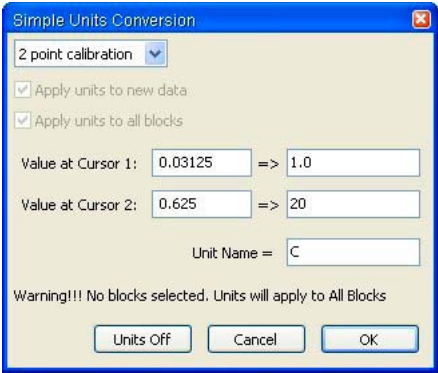

Fig. 39—
- 2. Select the **Channel** tab from the **Preferences Dialog** window (Fig. 39). A list of channels displays in the bottom half of the window. A1 represents channel one, A2 represents channel 2, etc. A check in the checkbox next to a channel indicated that it is selected to receive data input. Each field on the table is configurable.